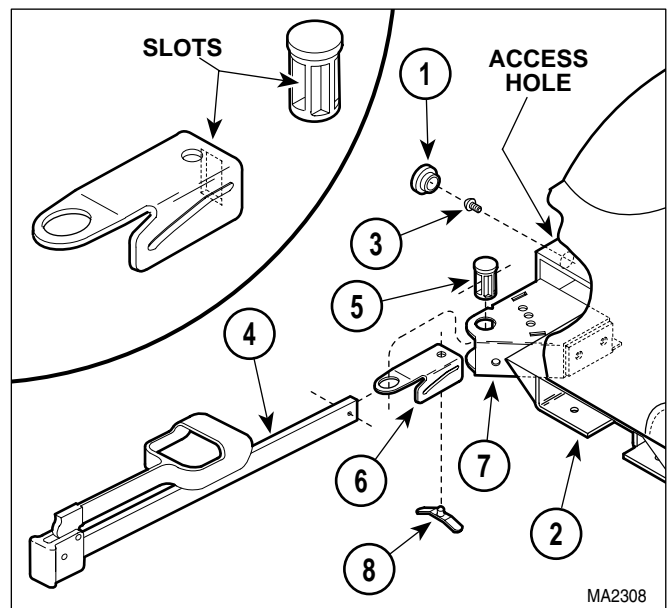

Figure 4-33. Stirrup Assembly And Components Removal / Installation
- (1) Remove hole plug (1, Figure 4-33) from access hole in seat weldment (2).
- (2) Insert screwdriver in access hole and remove screw (3) from stirrup assembly (4).
- (3) Pull stirrup assembly (4) out of pivot boss (5).
- (4) Remove pivot boss (5) and stirrup guide bracket (6) from stirrup mount weldment (7).
- (5) If damaged, remove stirrup index spring (8) from stirrup guide bracket (6).